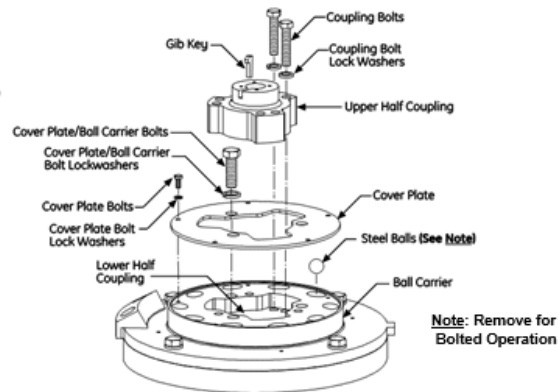

Figure 4: Bolted Operation Exploded View
2. Remove the (5) cover plate bolts and lock washers securing the cover plate to the ball carrier. Refer to Figure 4.
3. Using a magnet, remove the steel balls (10) from the angular drilled holes located on the ball carrier.
4. Reassemble the cover plate to the ball carrier. Install the (5) cover plate bolts with lock washers. Initially tighten one bolt "hand tight" and in a circular fashion, tighten the remaining bolts "hand tight" as well. Afterwards, tighten each bolt to the torque value shown in Table 4.
6. Mount the upper half coupling so that it fits flush to the ball carrier. Refer to Figure 4 .
7. Install the (3) coupling bolts and lock washers as shown in Figure 4. Initially tighten one bolt "hand tight" and in a circular fashion, tighten the remaining bolts "hand tight" as well. Afterwards, tighten each bolt to the required torque value shown in the Table 4.